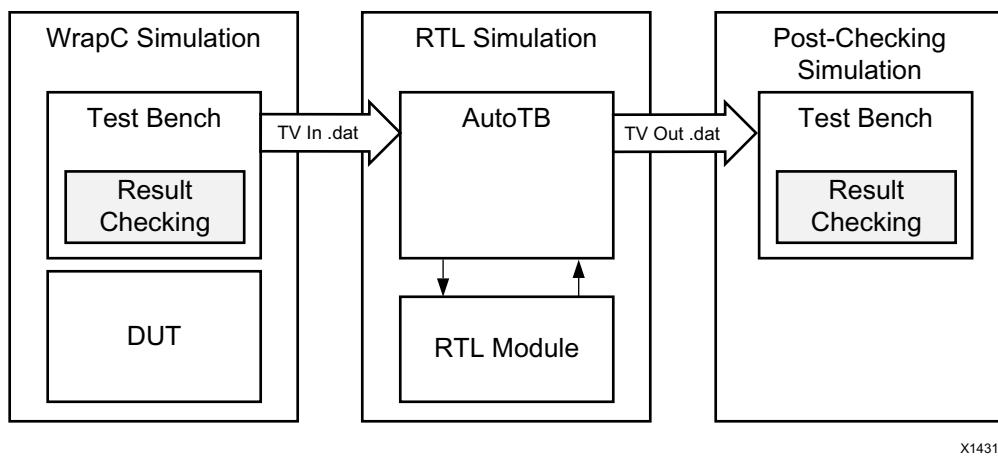

Figure 1-82: RTL Verification Flow
C/RTL co-simulation uses the C test bench to automatically verify the RTL design. The verification process consists of three phases, shown in Figure 1-82.
- Reduce Disk Space: The flow shown Figure 1-82 in saves the results for all transactions before executing RTL simulation. In some cases, this can result in large data files. The `reduce_diskspace` option can be used to execute one transaction at a time and reduce the amount of disk space required for the file. If the function is executed N times in the C test bench, the `reduce_diskspace` option ensure N separate RTL simulations are performed. This will cause the simulation to run slower.